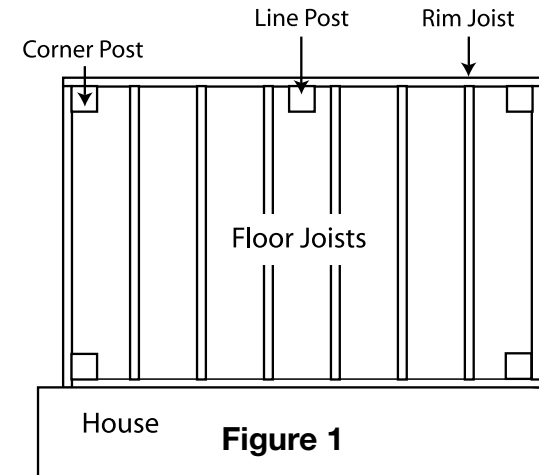

Figure 1
Composite guardrail systems should only be secured to code compliant posts. Securing a guardrail to another structure (i.e. building) is not recommended (Figure 1).
Use Joist Mount Brackets on projects where framing is fully exposed (Figure 1). In new construction, Joist Mount Brackets are attached to the inside of the framing before the porch flooring or decking is installed. Joist Mount Brackets may be used to install railing on existing decks provided the framing underneath is exposed to permit proper installation. Joist Mount Brackets can be used in a corner or line application and bolts directly to the framing with four galvanized carriage bolts. Follow these guidelines to complete the post installation:
1. Determine position of the posts on the framing (Figure 1).